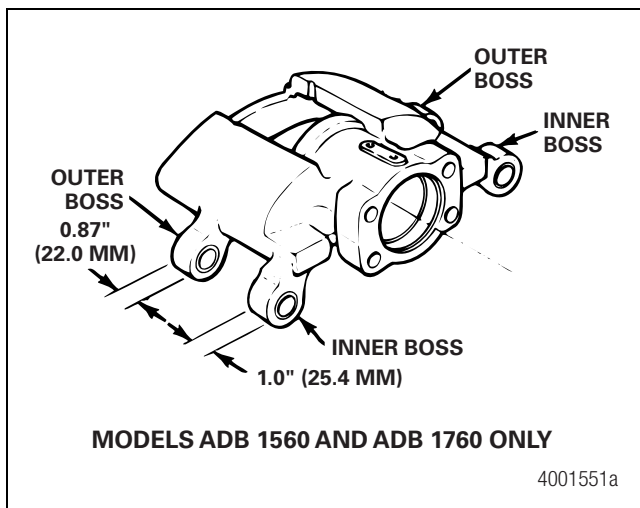

Figure 4.8
- **Models ADB 1560 and ADB 1760:** The inner boss length is approximately one-inch (25.4 mm). The outer boss length is approximately 0.87-inch (22 mm). Figure 4.8.